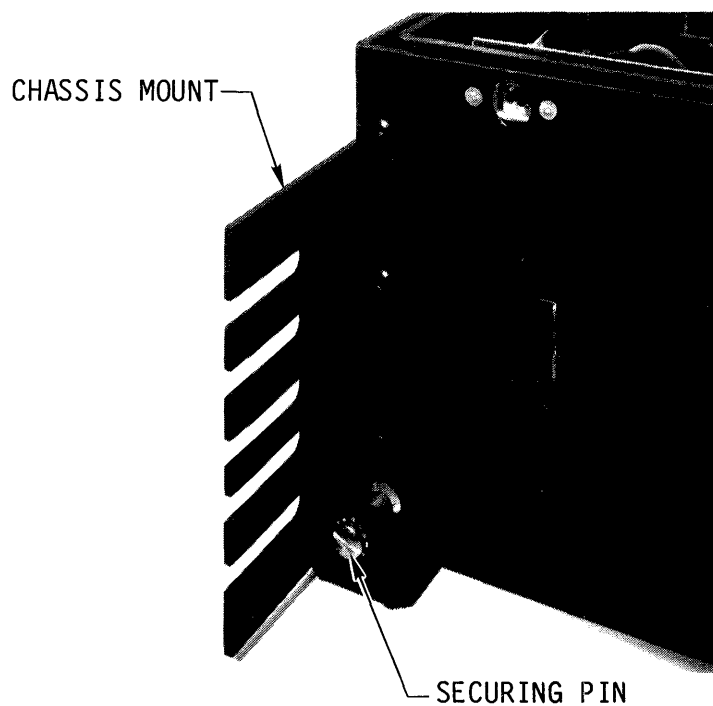

Figure 2-3. Securing the DSD 440 in a Rack
- 3) Slide the DSD 440 chassis on the mounts until the two bullets at the rear of the chassis mounts engage the corresponding holes in the rear of the chassis as shown in Figure 2-3.